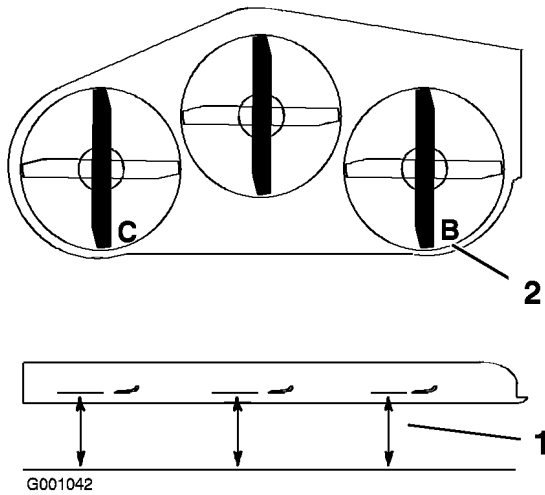

Figure 76
1. Position the right blade front-to-rear (Figure 76).
2. Measure the right blade at the **B** location, from a level surface to the cutting edge of the blade tip (Figure 76).
4. Position the left blade front-to-rear (Figure 76).
5. Measure the left blade at the **C** location (Figure 76), from a level surface to the cutting edge of the blade tip .